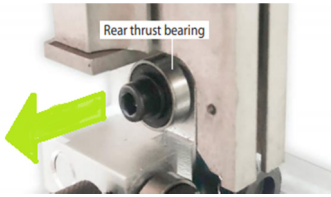

Figure 8
- Remove the upper classic cutter bearing. (Fig 8)